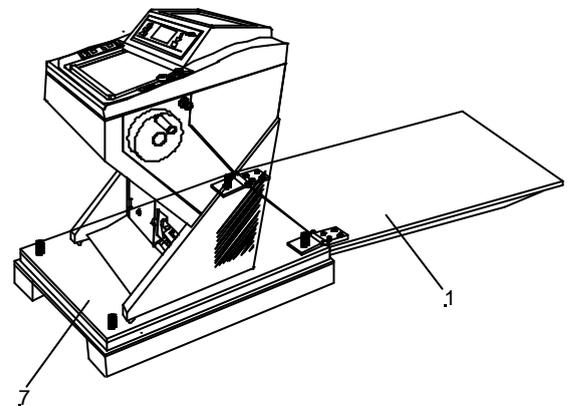

Fig. 5a
- ? The hinges of the upper wooden cover have central holes. These holes will now be put onto the vertical screws of the bottom plate (fig. 5a.7).
The upper wooden cover now serves as an incline (fig. 5a.1) on which the cryostat can be moved from the pallet to the floor.